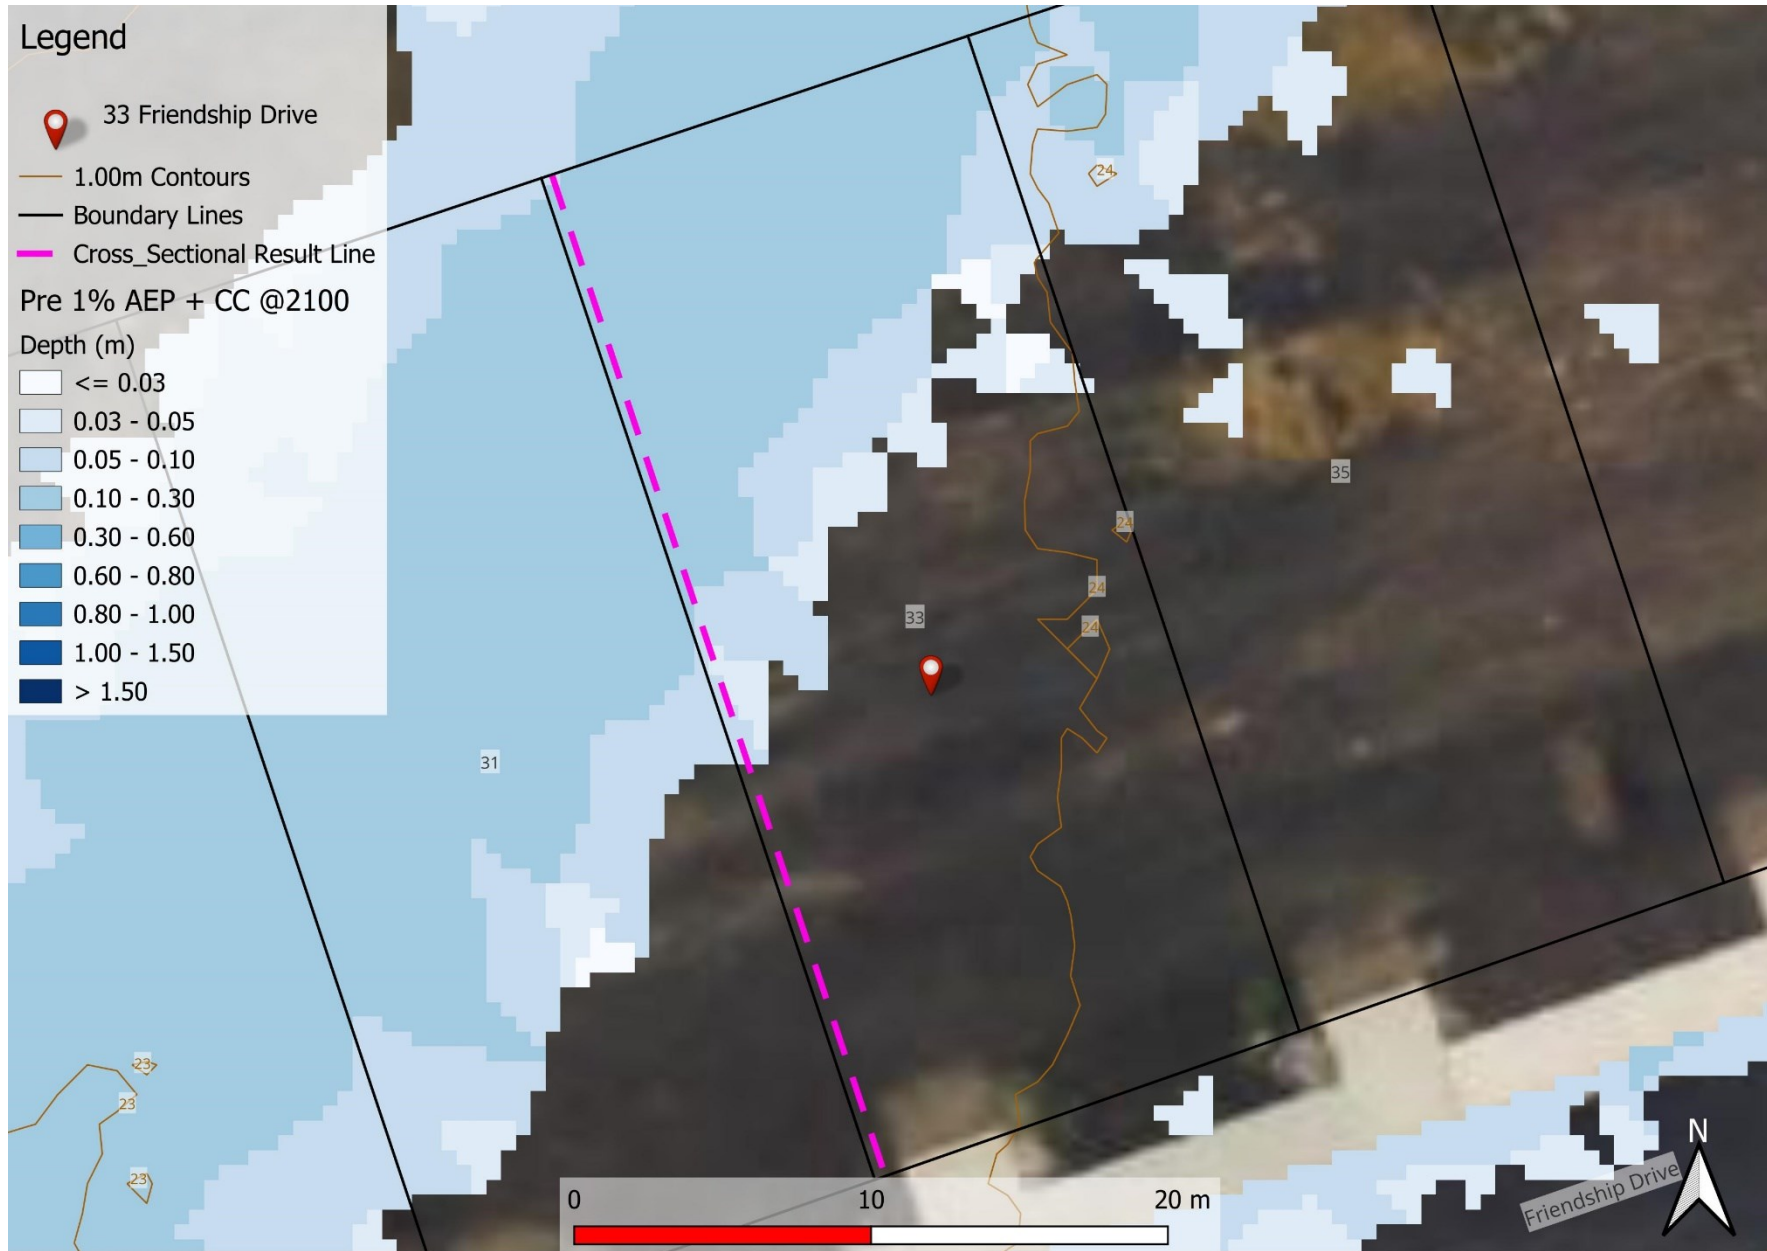
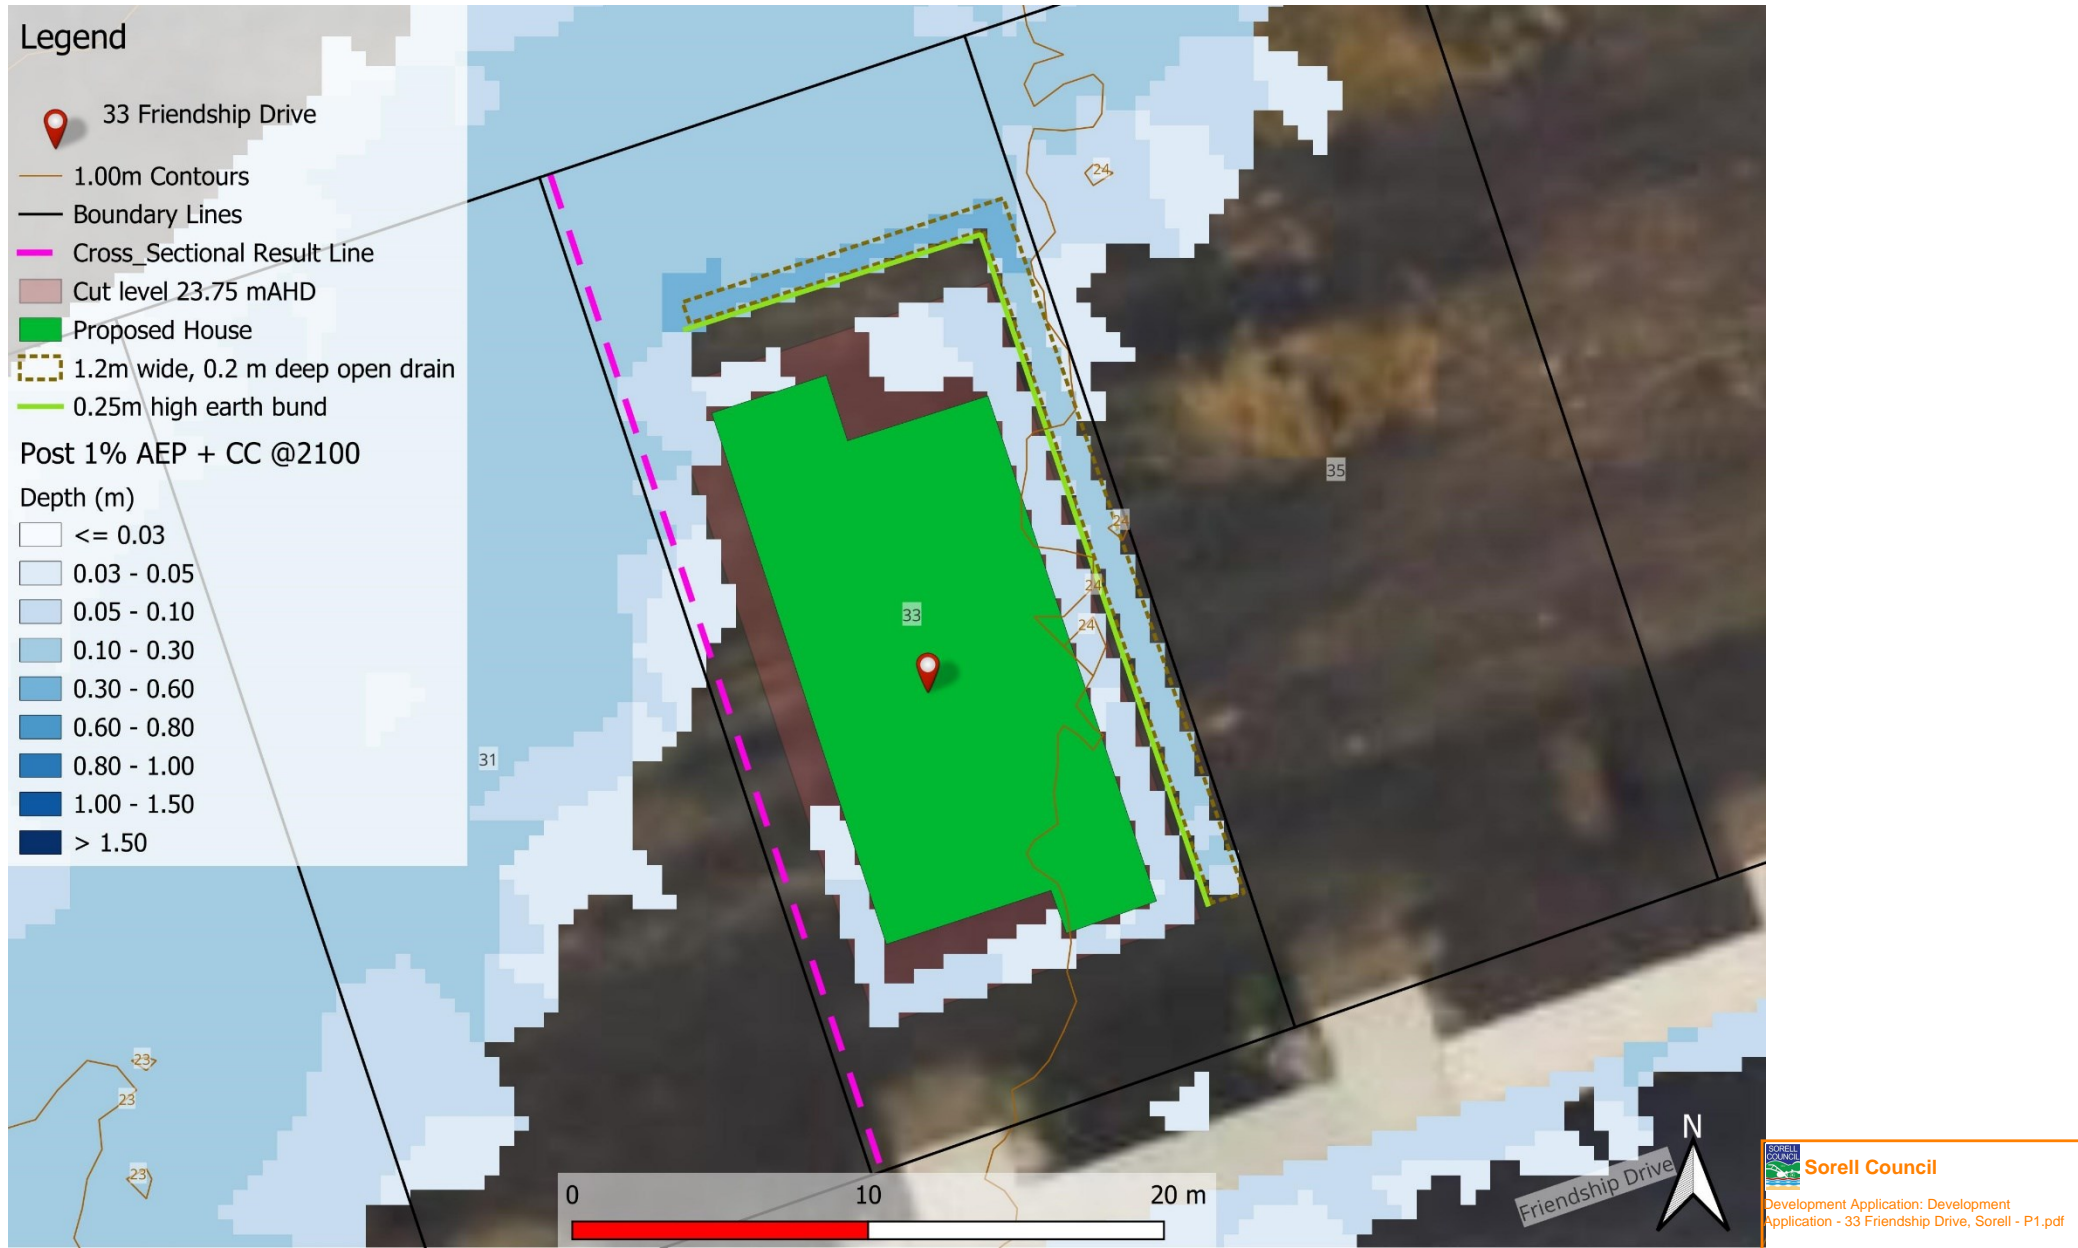

Figure 4. Pre-Development 1% AEP + CC Depth
Figure 5. Post-Development 1% AEP + CC including Depth
The result of 1% AEP + CC were run through the pre-development and post-development model scenarios to compare the changes to flooding onsite and to surrounding properties. It can be seen from the pre-development model runs (Figure 4), that there is a shallow overland flood path flowing from the northern lot boundary with maximum flood depths of 0.20 m observed at the cross-sectional results line. The maximum depth in the pre-development scenario within the lot is 0.23 m observed in the northern section of the lot.
Figure 5 shows the effect that the inclusion of the proposed development has on the overland flood flow. A 1.2 m wide, 0.2 m deep open drain is recommended to be constructed adjacent to the northern lot boundary to alleviate flood depths surrounding the proposed dwelling. This is further supported by a 0.25 m high earth bund constructed along the southern edge of the open drain.
Post-development flows in Figure 5 show that when compared against pre-development in Figure 4, there is only negligible increase in flood depths on adjacent properties to the west of the development lot, with the overland flow continuing towards the natural overland flow path. However, this lot to the west is already affected by this overland flood path, and any observed increase in flood depths is only minimal and does not contribute to any increase in flood hazard.
1. A new 1.2 m wide, 0.2 m deep open drain to be constructed along the eastern and northern lot boundary which is further supported by a 0.25 m high earth bund as shown in Figure 5.